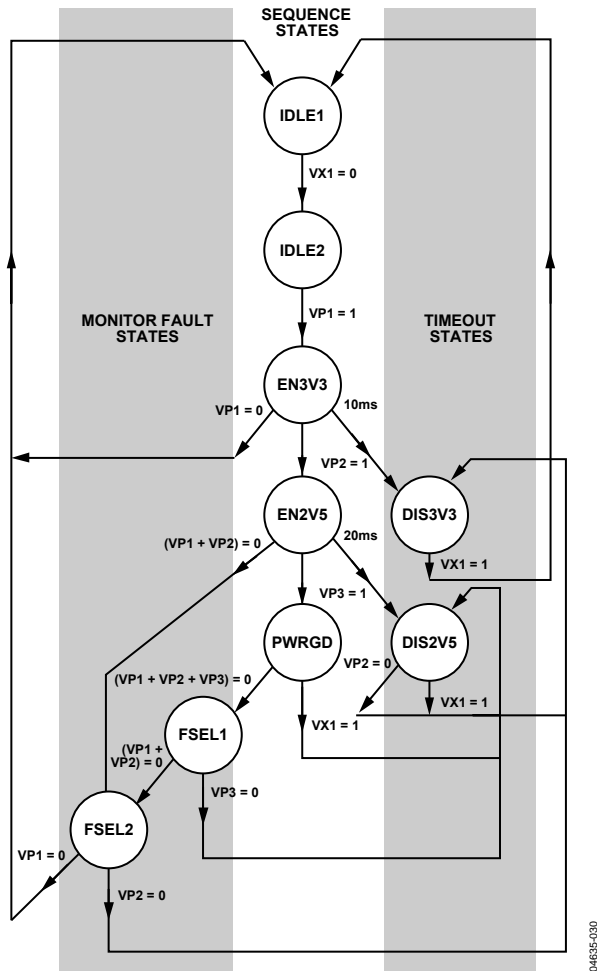

Figure 24. Sample Application Flow Diagram
The application in this section demonstrates the operation of the sequencing engine (SE). Figure 24 shows how the simple building block of a single SE state can be used to build a power-up sequence for a 3-supply system.
Faults are dealt with throughout the power-up sequence on a case-by-case basis. The following three sections describe the individual blocks and use the sample application in Figure 24 to demonstrate the state machine's actions.
The sequence detector can also help to identify monitoring faults. In the sample application shown in Figure 24, the FSEL1 and FSEL2 states first identify which of the VP1, VP2, or VP3 pins has faulted, and then they take the appropriate action.
In the sample application shown in Figure 24, the timeout next-state transition is from the EN3V3 and EN2V5 states. For the EN3V3 state, the signal 3V3ON is asserted upon entry to this state (on the PDO1 output pin) to turn on a 3.3 V supply. This supply rail is connected to the VP2 pin, and the sequence detector looks for the VP2 pin to go above its UV threshold, which is set in the supply fault detector (SFD) attached to that pin.